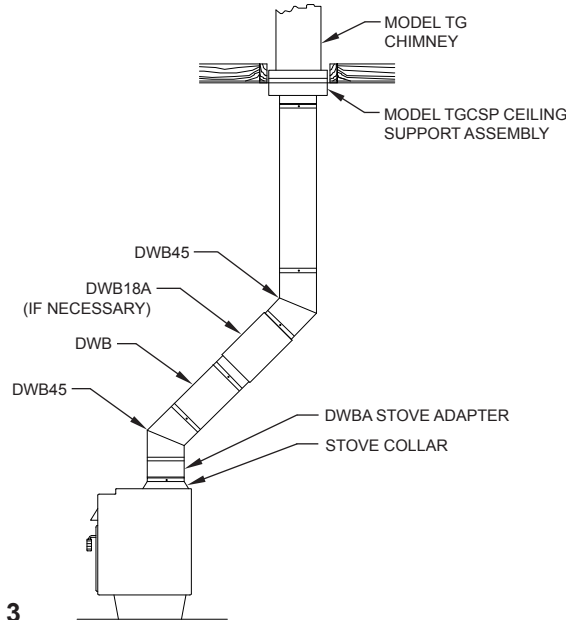

FIG. 3
- If your installation does not allow for straight up pipe sections, it may be necessary to use elbows (DWB45). The DWB45 is secured to the vertical section with sheet metal screws. The DWB section can now be installed between elbows. The second DWB45 can be attached to a vertical section that extends to the ceiling support and to the DWB section between elbows (See **FIG. 3**). It is recommended that only one DWB section, and if necessary one adjustable (DWB18A), be installed between elbows. The DWB45 can also be installed back to back.